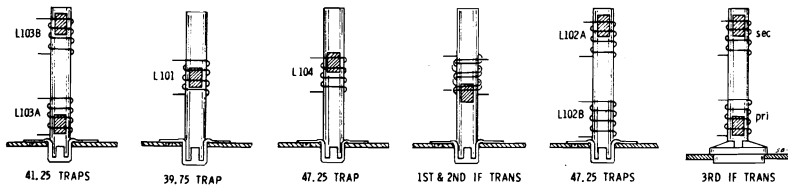

FIGURE 17. COIL CORE POSITIONS
5. All coil slug tuning positions, in relation to chassis, are given in the procedure chart and in the separate detail of Figure 17.